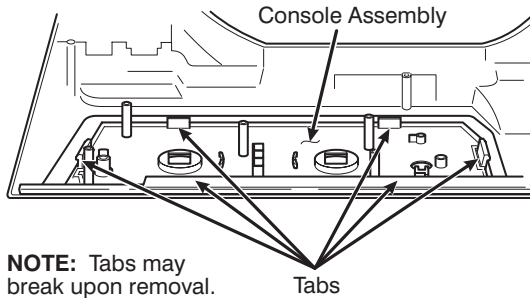

Figure 10
- Console Assembly (Figure 10)